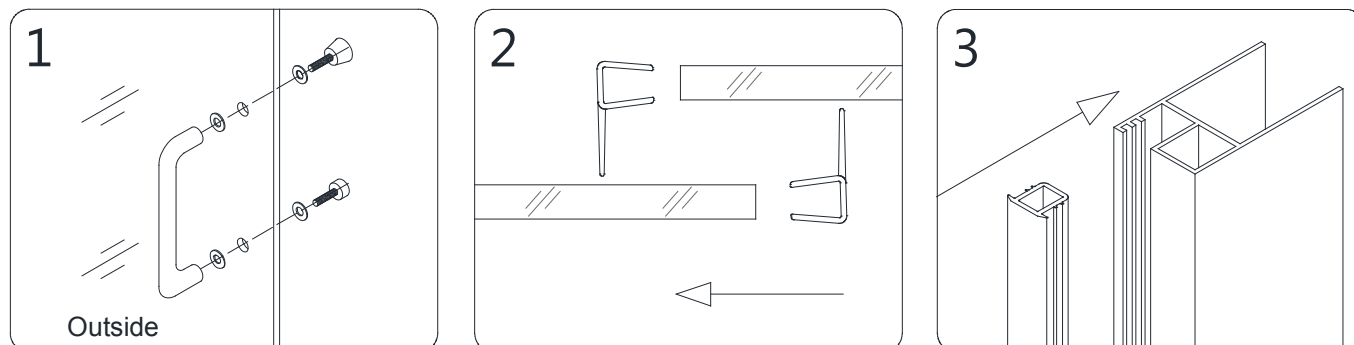

**Fig 13**
**13.** From inside of the shower, insert the bottom **Wheel Assemblies (#17)** into the **Bottom Guide Rail (#03)**, lift the door up and snap the top **Wheel Assemblies (#17)** into the **Top Guide Rail (#03)**. Test the operation of the door, and if necessary, use a #2 Phillips screwdriver (**do not use a power screwdriver**) to adjust the upper wheels so the door rolls smoothly and the closes tight. (**Fig 13**)